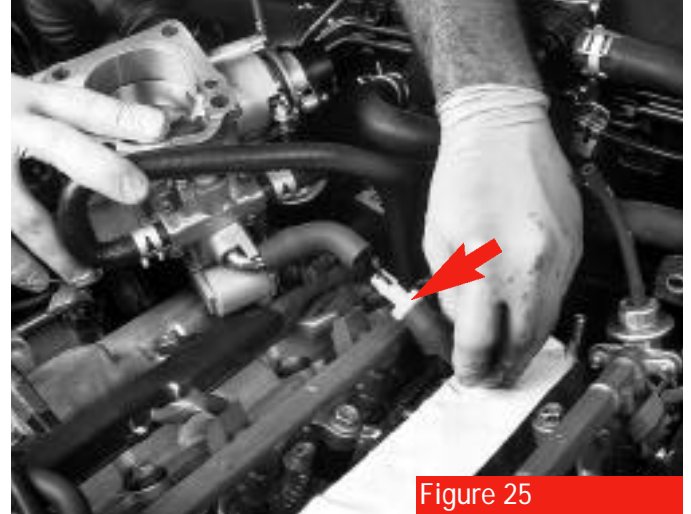

Figure 25
1. **(Skip this step for 2001 and newer 4Runner)** Cut the hose leading to the IAC valve connector at the location shown, and insert the kit's one-way valve into the straight part of the hose. The black end of the valve **(see arrow, figure 25 and diagram on page 23)** is closest to the throttle body.